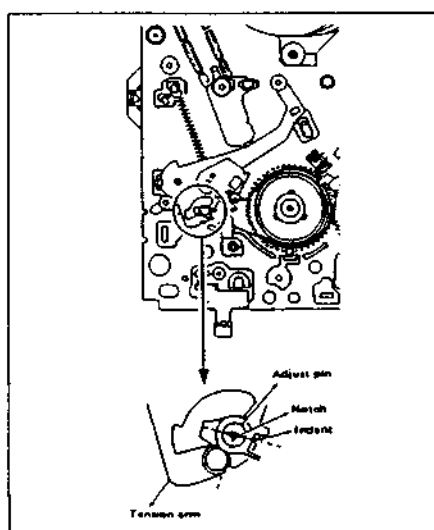

Fig.1-4-1
- 2) Turn the eccentric adjust pin to align the notch of the pin with the tension arm indent as shown in Fig. 1-4-1.